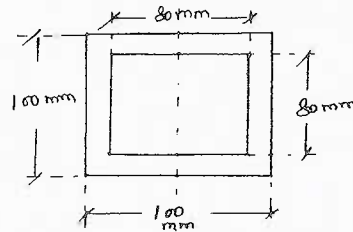

Fig.Q5(a) (06 Marks)
- 5 a. For the section shown in Fig.Q5(a), find the (i) Position of the neutral axis, (ii) Section modulus.
- b. A steel beam of hollow section of outer side 100 mm and inner side 80 mm is used on a span of 4 m. Find the uniformly distributed load the beam can carry if the bending stress is not to exceed 120 N/mm^2 . The beam is taken as simply supported. [Refer Fig.Q5(a)] (06 Marks)